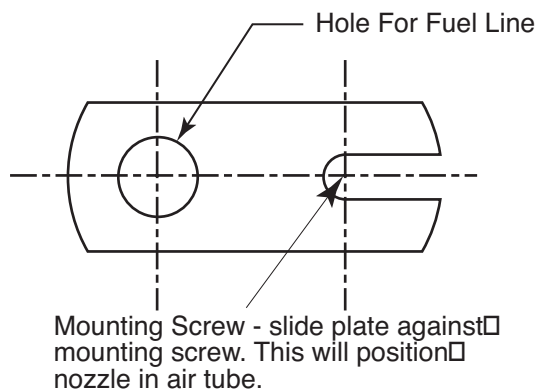

Figure 21. Electrode Assembly Installation
2. Install electrode assembly into air tube unit. Use escutcheon plate for mounting (see Figure 21).